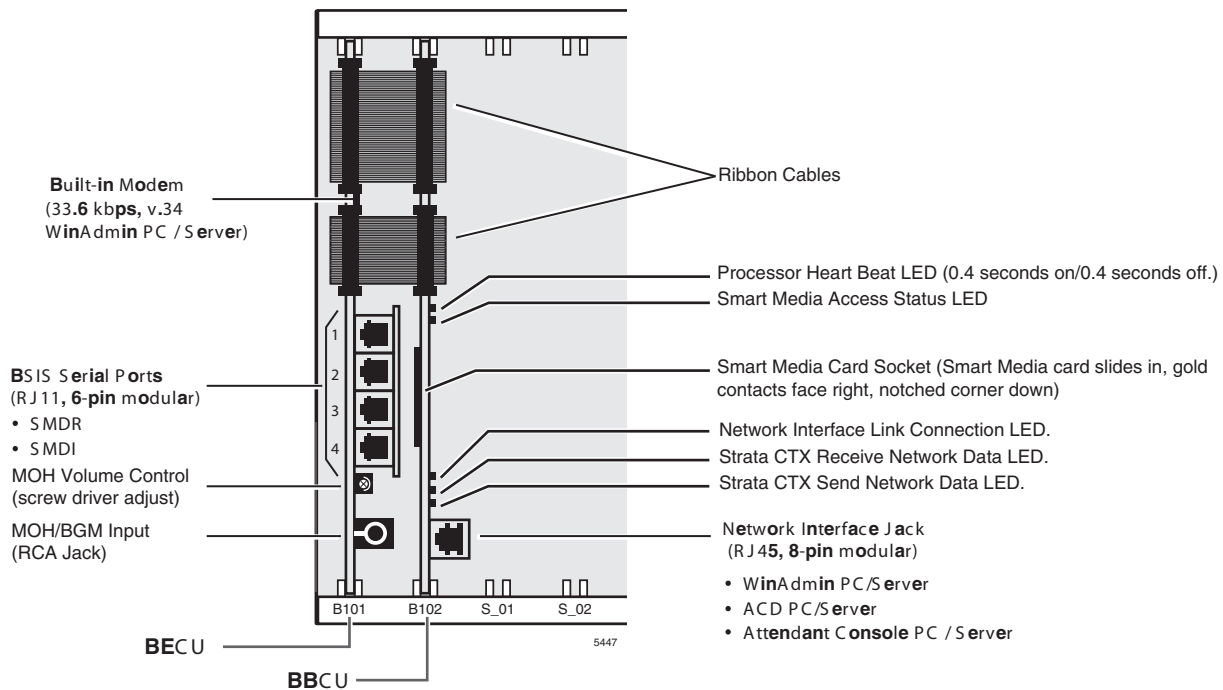

Figure 8-1 Application PC/Server Interfaces
Application PCs and/or servers are connected to the Strata CTX system via a Network Interface jack, RS-232 serial ports and/or a Strata CTX modem depending on the application. These interfaces are provided by the CTX system processor. The network jack and built-in modem are standard equipment on the CTX670 processor and option PCBs on the CTX100 processor. The BSIS four-port serial interface is an optional PCB that mounts on the CTX100 or CTX670 processor (see Figure 8-1).
- ◆ **CTX WinAdmin, Strategy VM Proprietary Integration, Attendant Console and ACD Network Interface** – These application PC/servers equipped with a standard Network Interface Card (NIC) connect to the Strata CTX network jack. One network interface jack is standard on the Strata CTX670, BBCB processor PCB. The AETS option is required on the CTX100 ACTU processor. This is the only network jack interface on the Strata CTX (see Figures 8-1~8-4).